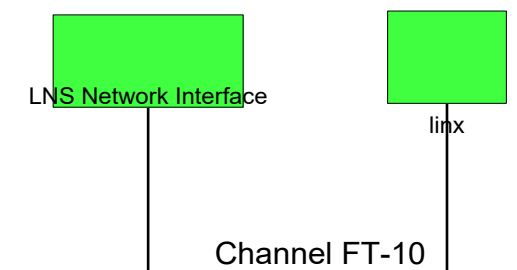

Figure 92: The L-INX has been added to the drawing.
10. Finally, you should get the device added to your drawing as depicted in Figure 92.